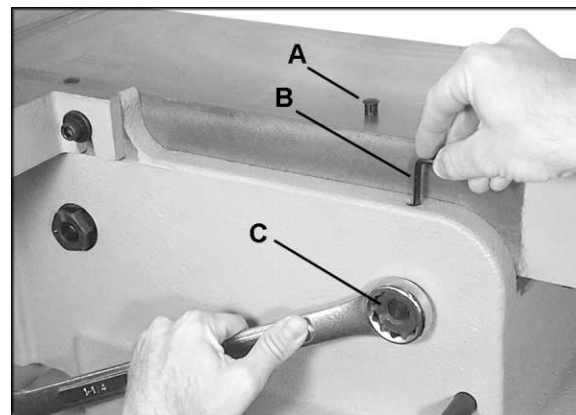

Figure 22
- At the area of the table where the adjustment must be made, pry out the cap (A, Figure 22) from the hole.
- There are two set screws in the hole. Insert a 4mm hex wrench (B, Figure 22) into the hole and loosen the upper set screw by turning the hex wrench counterclockwise. Remove the upper set screw from the hole.
- Turn the hex nut (C, Figure 22) with a 1-1/4" wrench. **This adjustment is sensitive and should be made in small increments.**
NOTE: The rotation is different for left and right hex nuts; the right hex nut being turned in Figure 22 will be turned clockwise to raise that area of the table, or counterclockwise to lower that area of the table. The left hex nut shown in Figure 22 would be rotated in the opposite manner.
- When the adjustment is satisfactory, with the tables now parallel to the cutterhead, tighten the lower set screw with the hex wrench (B, Figure 22).
- Re-insert the cap (A, Figure 22) to keep dust and debris out of the hole.